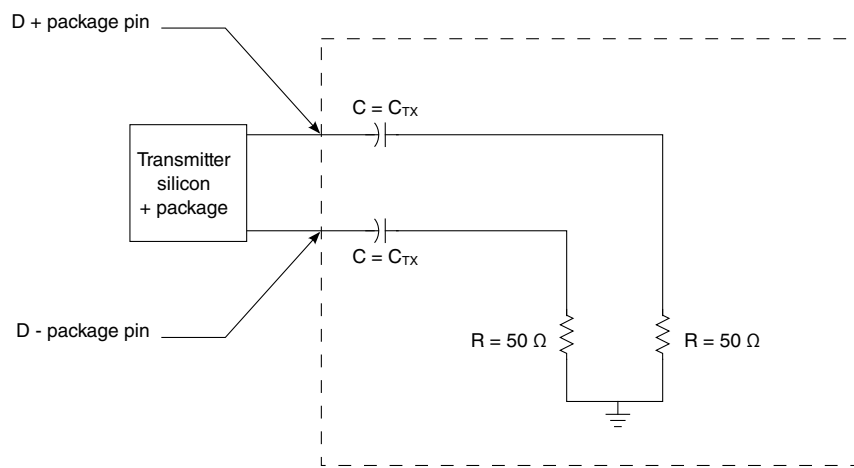

Figure 97. Test and measurement load
1. Specified at the measurement point into a timing and voltage test load as shown in Figure 97 and measured over any 250 consecutive transmitter UIs.
1. Specified at the measurement point and measured over any 250 consecutive UIs. The test load in Figure 97 must be used as the receiver device when taking measurements. If the clocks to the receiver and transmitter are not derived from the same reference clock, the transmitter UI recovered from 3500 consecutive UI must be used as a reference for the eye diagram.